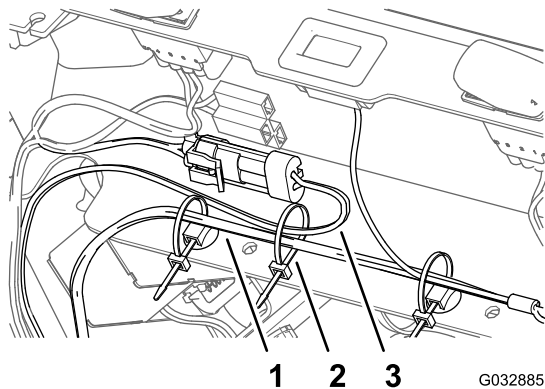

Figure 15
5. Secure the wire harness for the LED light kit to the harness of the machine with a cable tie as shown in Figure 15.